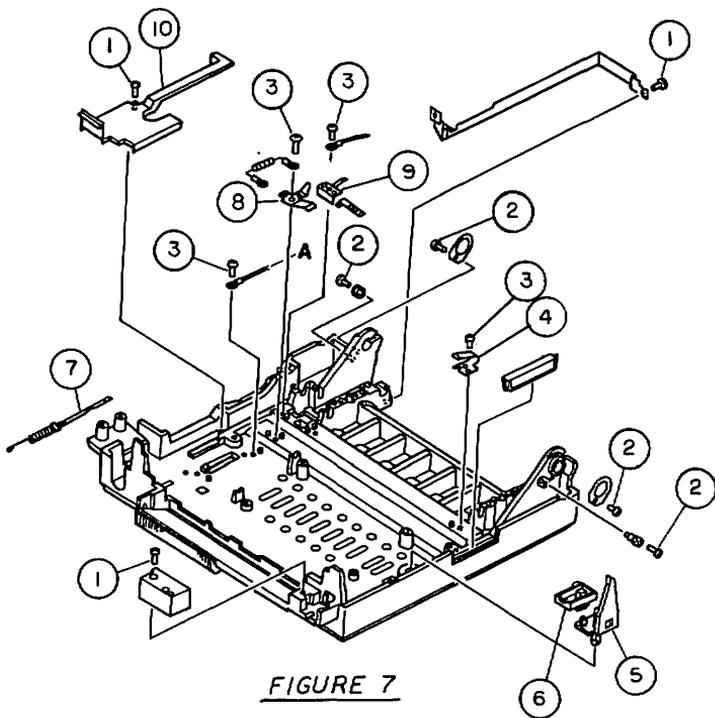

FIGURE 7
**LASERWRITER - LOWER MAIN BODY (Figure 7)**